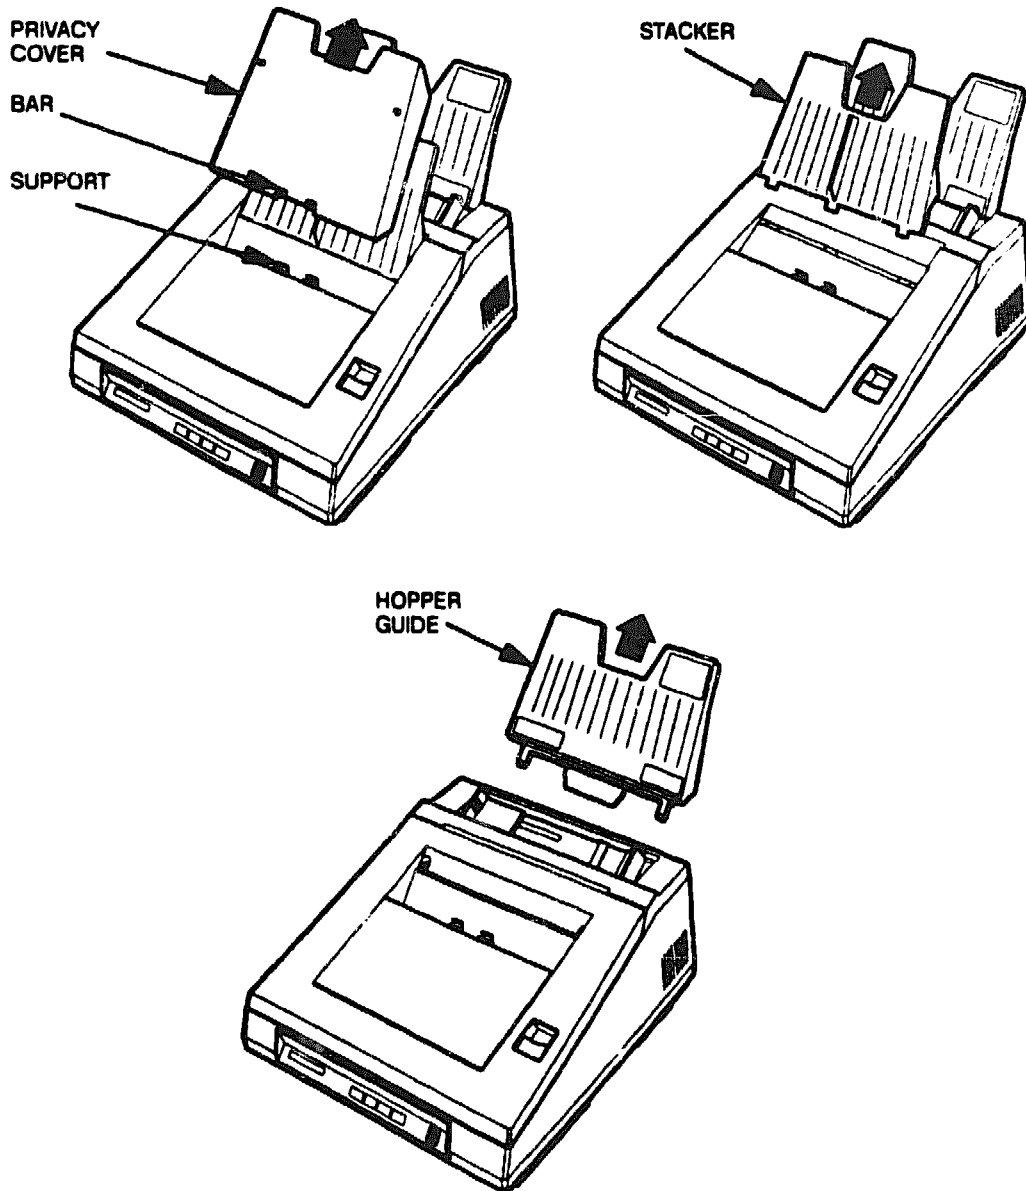

Figure 6-13 Stacker and Privacy Covers and Hopper Guide
1. Lift the stacker and privacy covers toward you and remove them from the printer (see Figure 6-13).
2. Slide the hopper guide away from the printer and lift it up and off the unit (see Figure 6-13.)